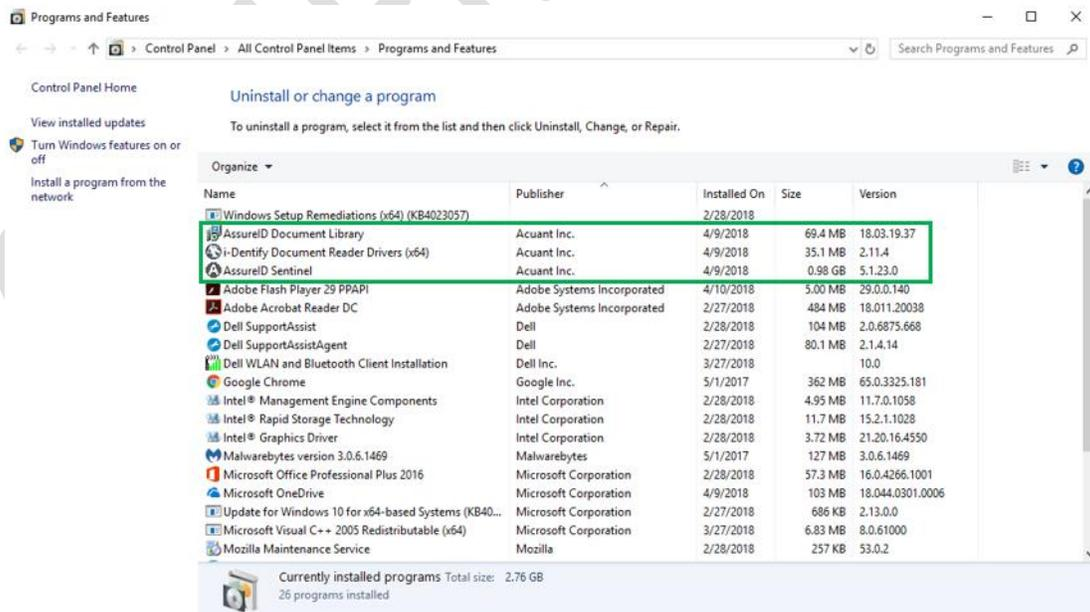

Figure 28 - Checking the current versions of drivers, software and document library
4. To the far right of the screen, you will see a column for “version.” This column will list the current version of the different programs, see figure 28.